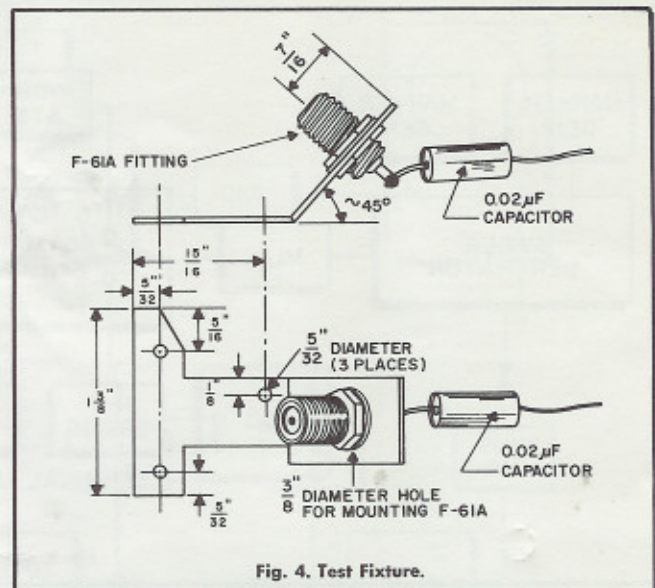

Fig. 4. Test Fixture.
- 1.13 Test Fixture (See Fig. 4).
- 2.3 Fasten the test fixture (Fig. 4) under the three screws holding the circuit boards near the HIGHBAND GAIN control and connect the fixture to the output terminal of the input board.